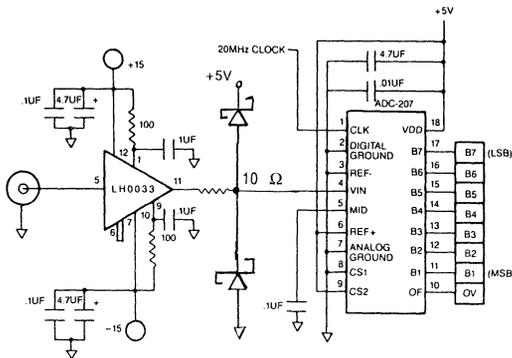

Figure 2. Typical Connections for Using the ADC-207
- Input Buffer Amplifier**—Since the ADC-207 has a switched capacitor type input, the input impedance of the 207 is dependent on the clock frequency. At relatively slow conversion rates a general purpose type input buffer can be used; at high conversion rates DATEL recommends either the HA-5033, the LH-0033 or Elantec 2003. See Figure 2 for typical connections.